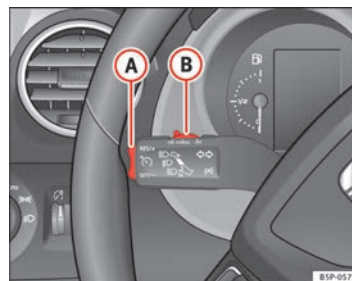

Fig. 148 Turn signal and main beam headlight lever: switch and rocker switch for the cruise control
- Push the switch ⇒ Fig. 148 (B) to the left to ON.